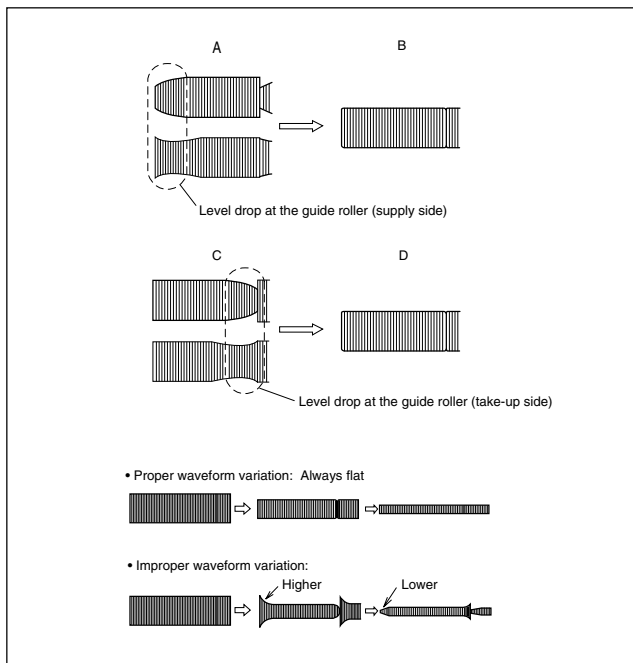
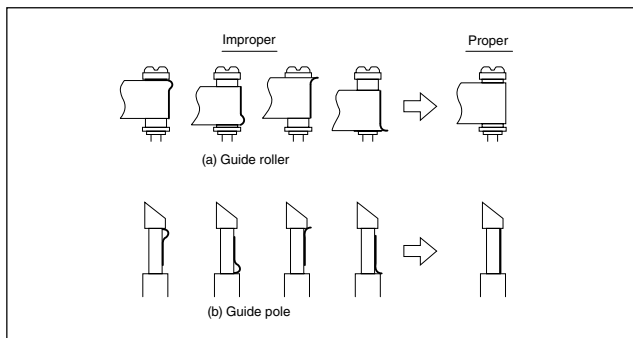

Fig. 2-3-1c
Fig. 2-3-1d
- (5) Reduce the V.PB FM waveform by the tracking operation. If a drop in level is found on the left side, turn the guide roller of the pole base assembly (supply side) with the roller driver to make the V.PB FM waveform linear. If a drop in level is on the right side, likewise turn the guide roller of the pole base assembly (take-up side) with the roller driver to make it linear. (See Fig. 2-3-1c.)
- (6) Make sure that the V.PB FM waveform varies in parallel and linearly with the tracking operation again. When required, perform fine-adjustment of the guide roller of the pole base assembly (supply or take-up side).
- (7) Unload the cassette tape once, play back the alignment tape (A1) again and confirm the V.PB FM waveform.
- (8) After adjustment, confirm that the tape wrinkling does not occur at the roller upper or lower limits. (See Fig. 2-3-1d.)
**[Perform adjustment step (9) only for the models equipped with SP mode and EP (or LP) mode.]**
- (9) Repeat steps (1) to (8) by using the alignment tape (A2).